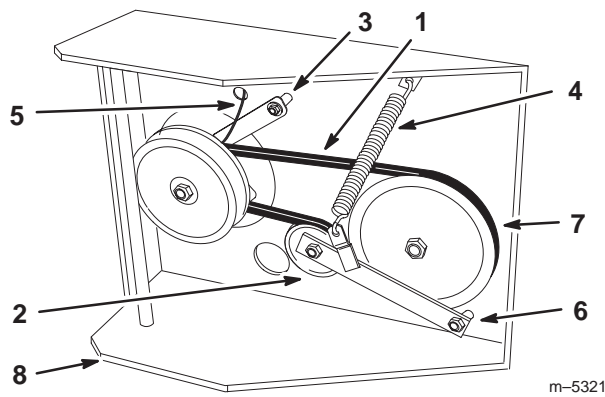

Figure 61
6. Disconnect clutch retainer from the engine deck (Fig. 61).
7. Unhook tension spring from side of frame (Fig. 61).
10. Torque pivot bolt to 35-40 ft-lb (47-54 N•m). Install tension spring between idler arm and frame bracket (Fig. 61).
11. Install clutch retainer to the engine deck (Fig. 61).